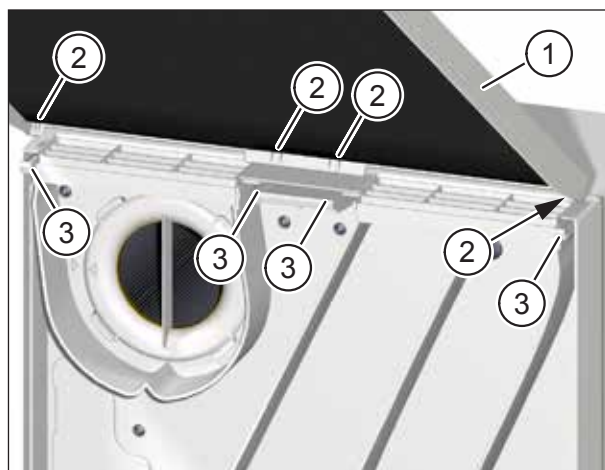

Fig. 23: Attaching the unit cover to the ventilation unit
- ▶ Hold the cover (item 1 in Fig. 23) of the ventilation unit with both hands and tilt the top edge of the cover towards the ventilation unit.
- ▶ Insert the tabs (item 2 in Fig. 23) of the unit cover into the retainers (item 3 in Fig. 23) on the top of the ventilation unit.